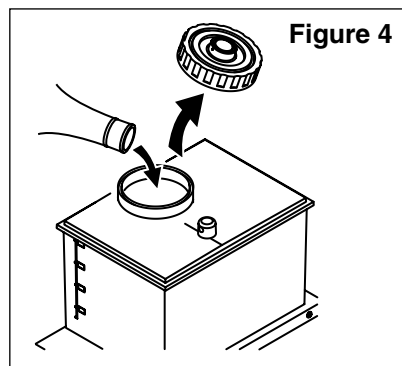

Figure 4
5. Remove the cap from the sake tank and fill it with sake (Figure 4) until sake level is somewhere between the minimum (0.5 liter) and the maximum (3.6 liters).